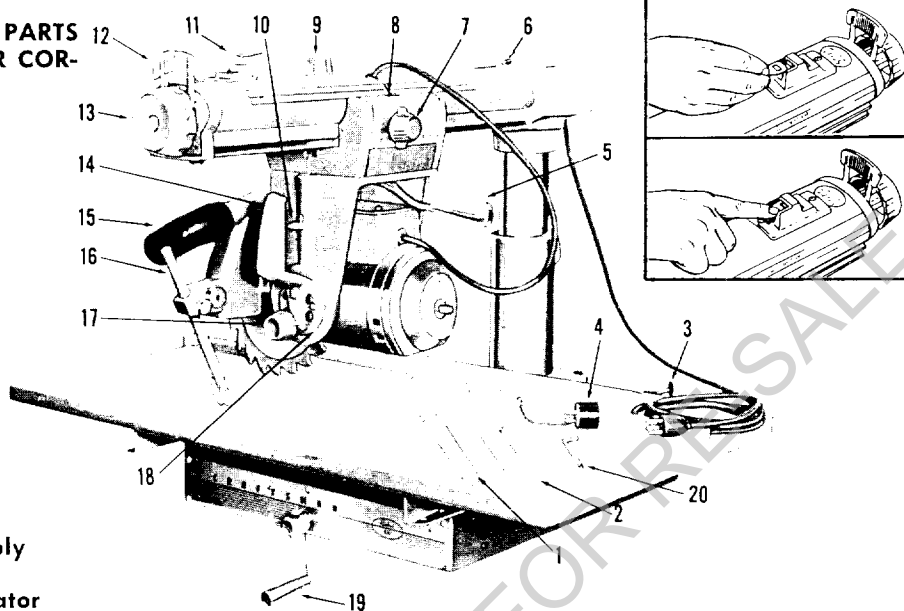
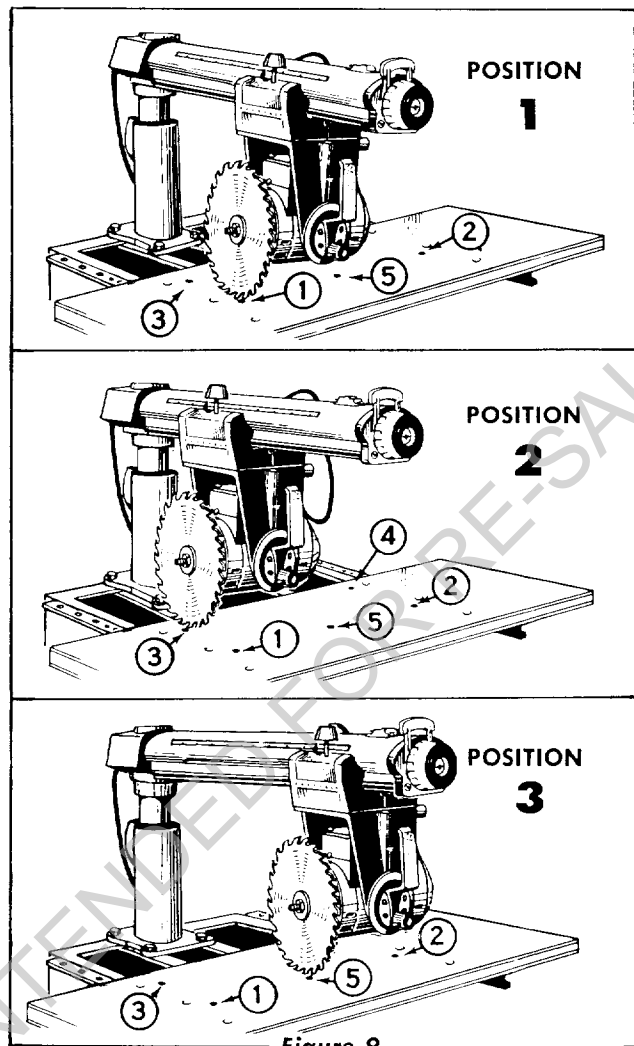
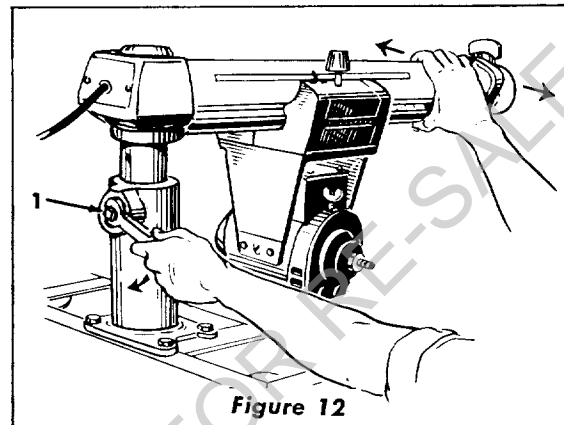
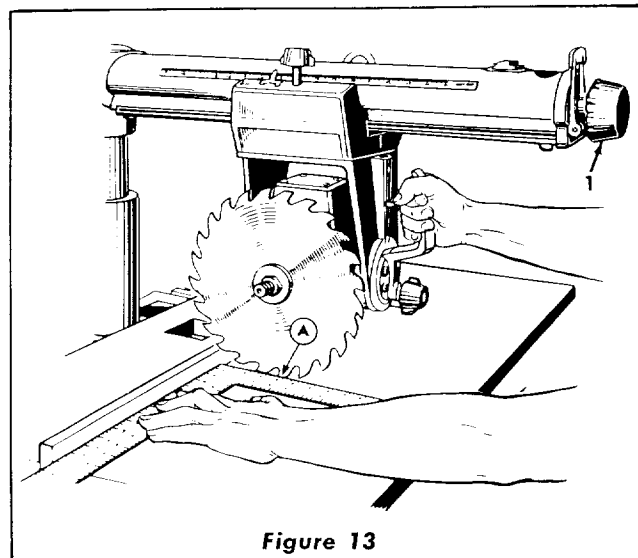

Figure 5
Figure 9
Figure 12
Figure 13
4. Release arm latch (Item 12, Fig. 5) and carriage lock (Item 7, Fig. 5) for easy movement of blade during leveling operation. Lower blade and move to points 1, 2, 3 and 4 (Fig. 9) to find at which of these points the blade first touches the top of the table. Spin blade by hand and listen for pinging sound to pick up this high point.
1. Adjust by tightening Key Plug (Item 1, figure 12) using
Shaft Wrench (Item 2, figure 5) with the left hand while moving the Radial Arm slightly from side to side with the right hand (Figure 12).
1. Set radial arm at 0° index position and tighten arm latch handle. (Item 1, figure 13.)
2. Lay square against fence as shown in Figure 13 and position until it just contacts a blade tooth (See A, figure 13). Mark this tooth.
- a. If saw tooth "A" (Figure 13) moves away from the square when moving the blade from the rear to the front of the table, loosen the table bolts on the left side of the table and tighten the left table clamp (Item 3, figure 5).
- Slightly move radial arm in proper direction to make saw tooth "A" (Figure 13) follow edge of square when checking.